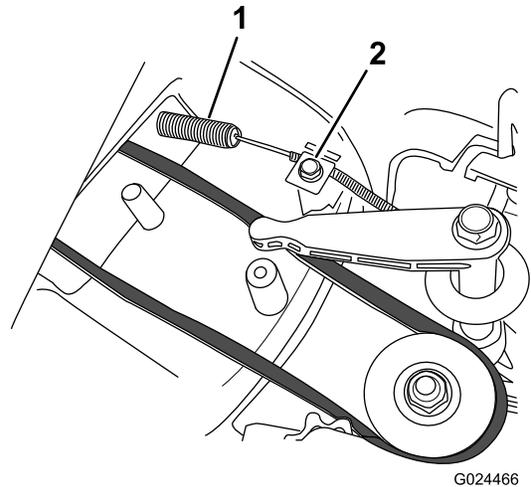

Figure 34
4. Install the new blade-brake cable, but do not tighten the cable clamp on the top of the mower housing (Figure 34).
5. Loosen the cable-clamp screw (Figure 34).